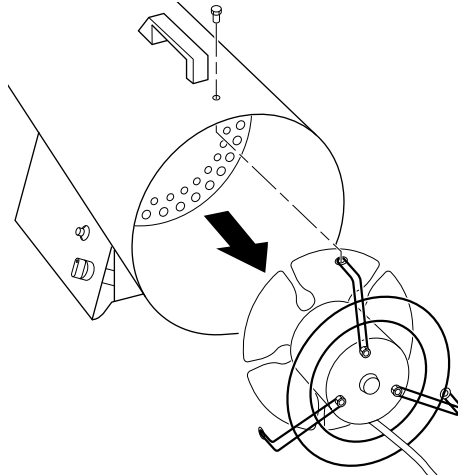

Figure 7 - Removing Motor and Fan Guard from Heater
2. Remove motor and fan guard from heater shell (see Figure 7).